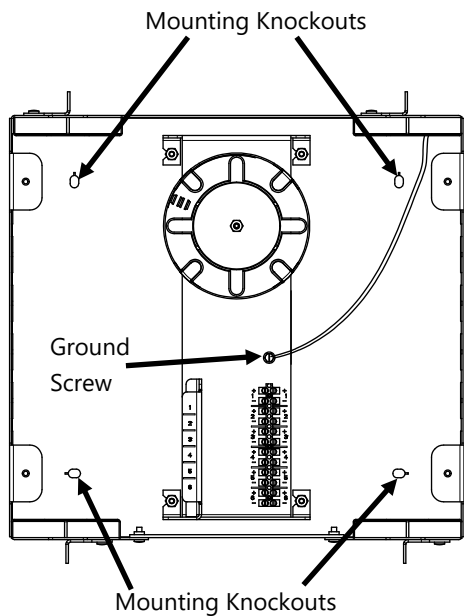

Figure 1
Step 1 – Mounting and Grounding the Transition Box (TB)
1. Mount the TB to a flat surface using the four mounting knockouts as shown in **Figure 1**.
2. Attach 12 AWG (or larger) ground wire to the TB using the green ground screw as shown in **Figure 1**. Attach wire to Earth ground.